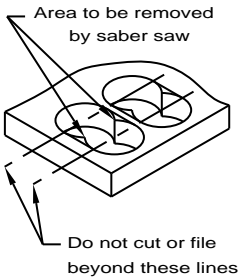

Figure 3
3. With the template as a guide draw tangent lines between the four holes to show the area to be removed. Use a rasp or a saber saw to remove points of material left from drilling (Figure 3).